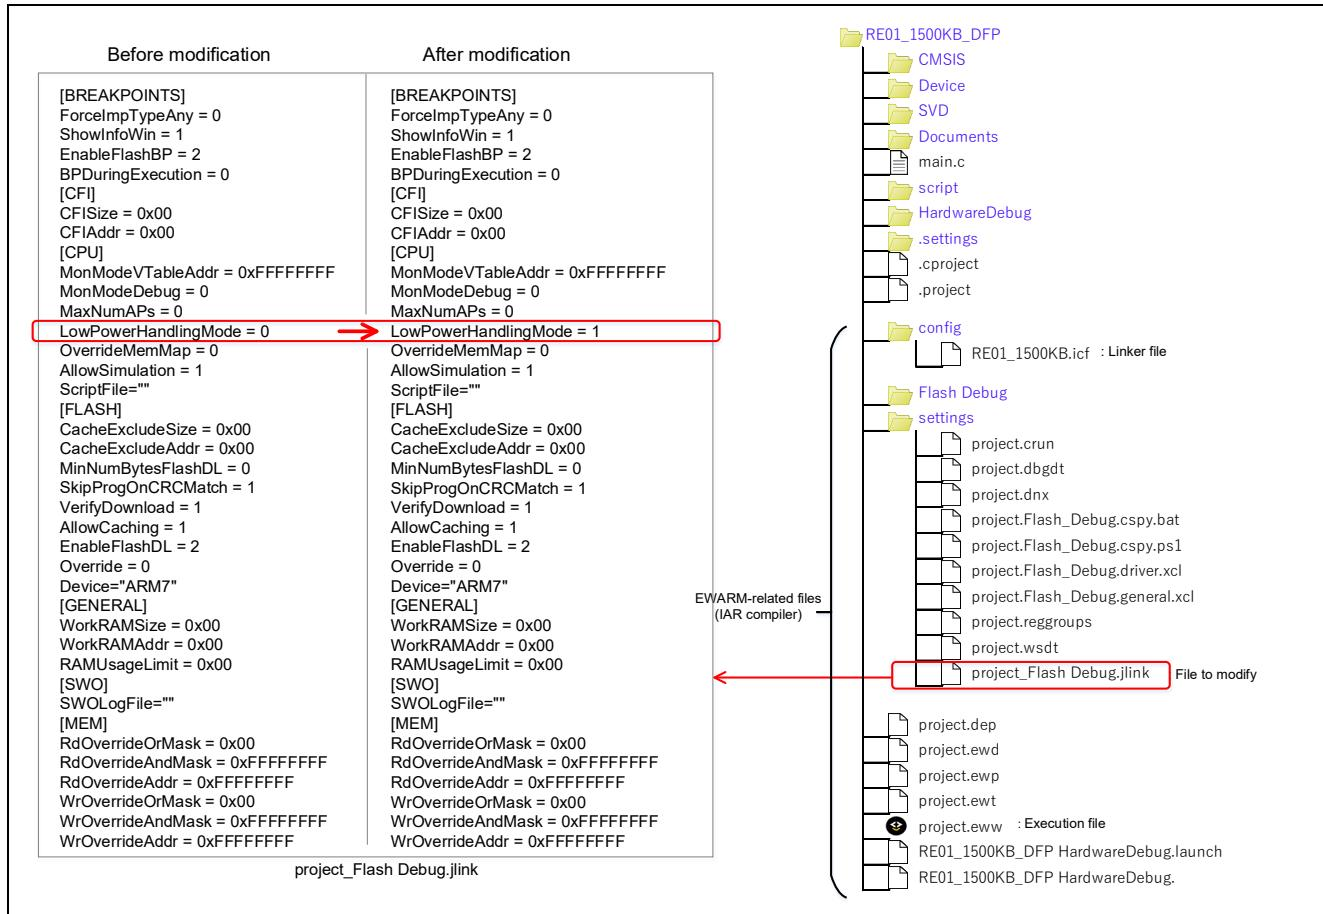

Figure 9-4 Example of Debugging Settings for Program Using Low Power Consumption Mode (EWARM)
- Use EWARM to open the project, and edit the file [project name]_Flash Debug.jlink that is generated upon first starting up J-Link OB, referring to Figure 9-4.